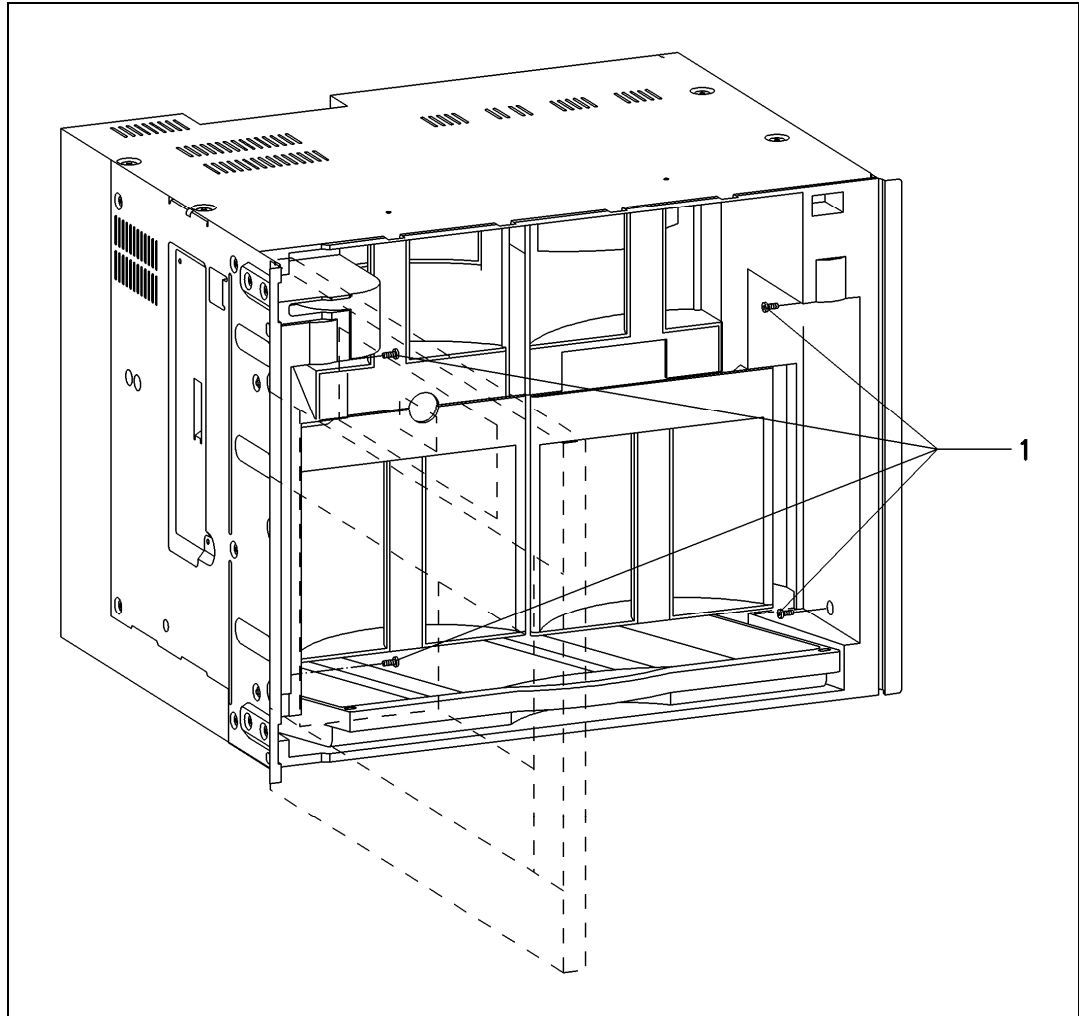

Figure 001-26: Removing the Appliance from a Cabinet
5. Remove the four retaining screws (Figure 001-26, Item 1).